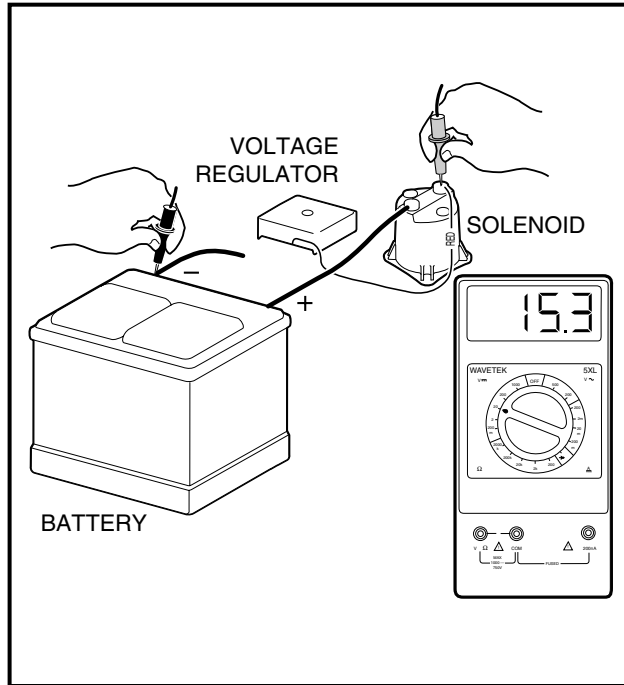

Figure 11b-40 Test Voltage Regulator
5. Turn the key switch to the OFF position, killing the engine. Using a multimeter set to 20 volts DC, place the red (+) probe on the large post of the solenoid with the red wire from the voltage regulator attached. Place the black (–) probe on the negative (–) battery post (**Figure 11b-40, Page 11b-34**). Turn the key switch to the ON position. Depress the accelerator to start the engine and run it at full governed speed. If the reading is between 14.7 and 15.3 volts, the regulator is good. If the reading is lower than 14.7 volts but rising steadily, check battery condition. **See Hydrometer Test on page 11b-24.** If the reading is lower than 14.7 volts and not rising, and the starter/generator is good; or if the reading is over 15.3 volts and continues to rise, replace voltage regulator. **See Voltage Regulator Removal, Section 12b, Page 12b-13.**